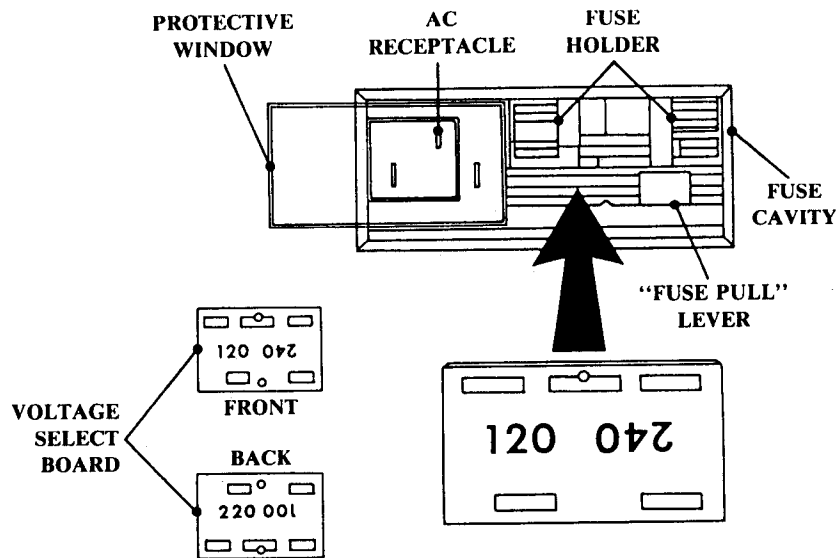

FIGURE 5-4. EXAMPLE 120 VAC CONVERSION (AC FUSE CAVITY)
3. Slide the clear plastic protective window to the left (see Figure 5-4).
5. Pull the voltage select board, which is located inside the fuse cavity below the fuse holder, out from the fuse cavity. As shown in Figure 5-4, one side of the voltage select board has the numbers "120" and "240" printed on it, and the other side has the numbers "220" and "100." The numbers indicate the operating voltage of 120, 240, 220, and 100 Vac. Hold the board in your hand so the number that reflects the desired operating voltage ("100," "120," "220," or "240") appears upright on the left side of the voltage select board. (The other number will appear upside down.) While holding the board in this position, slide it back into its place inside the fuse cavity (see Figure 5-4). The number that indicates the operating voltage will now be visible from the outside of the fuse cavity window.